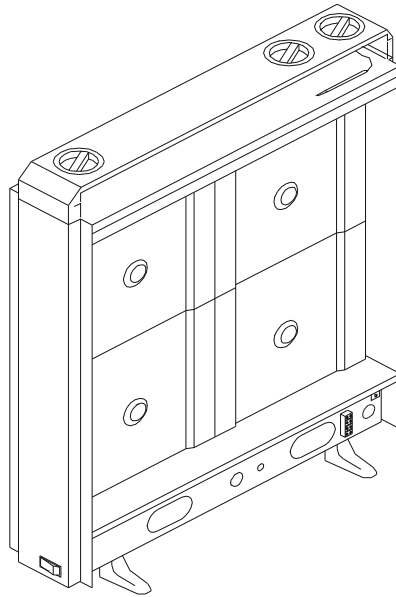

Fig.3
10. Place the storage bricks carefully, with the flat side facing the back of the heater. Arrange two rows of bricks (Fig.3).